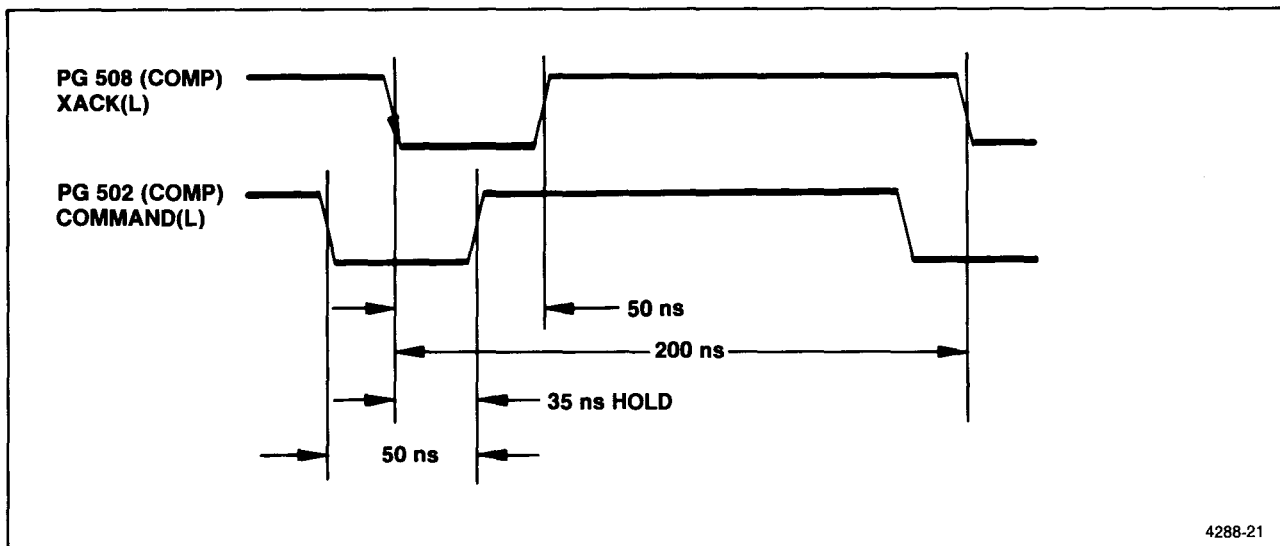

Figure 5-14. Command hold time.
5. Adjust the PG 508 VARIABLE DELAY knob so that the rising edge of MRDC(L) occurs 35 ns after the falling edge of XACK(L).
6. Confirm that the oscilloscope waveforms are as shown in Figure 5-14.